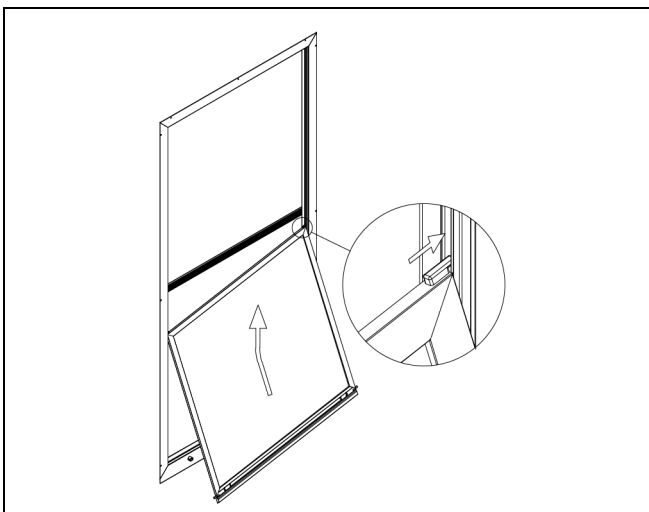

Figure 5
1. Grasp glass or screen panel near the finger pulls. Tilt the panel slightly so pins clear the frame. Insert pins in outer track and slide panel upward. Retract pull pins by sliding the finger pulls toward the center and hold while pushing the panel to the exterior. Release the finger pulls once the panel is fully seated in frame. Slide panel up until the pull pins fully engage and lock in the outer track. See Figure 5.